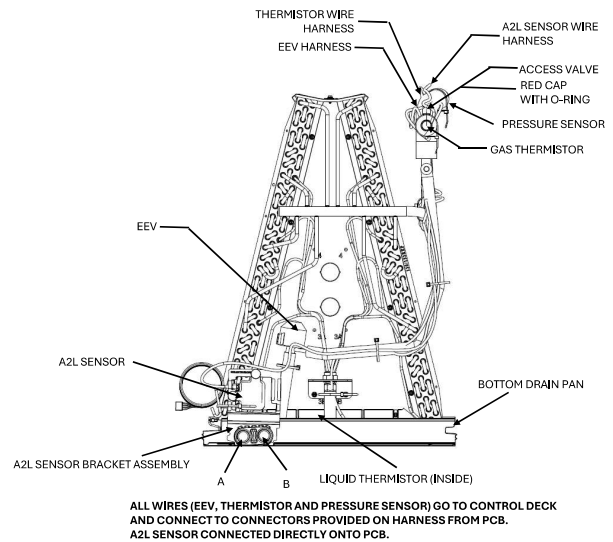

Figure 12
Condensate drain connections are located in the drain pan at the bottom of the coil/enclosure assembly see Figure 12. Use the female (3/4" FPT) threaded fitting that protrudes outside of the enclosure for external connections. The connectors required are 3/4" NPT male, either PVC or metal pipe and must be hand tightened to a torque of no more than 37 in-lbs, to prevent damage to the drain pan connection. An insertion depth between .36 to .49 inches (3-5 turns) should be expected at this torque.
Drain port labeled (A) in Figure 12 is the primary drain and condensate drain line must be attached to this drain port.